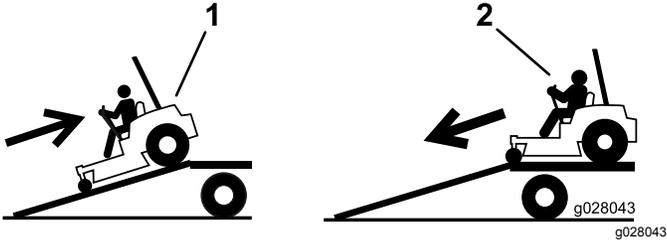

Figure 45
4. Back the machine up the ramp (Figure 45).
2. Drive the machine forward down the ramp (Figure 45).